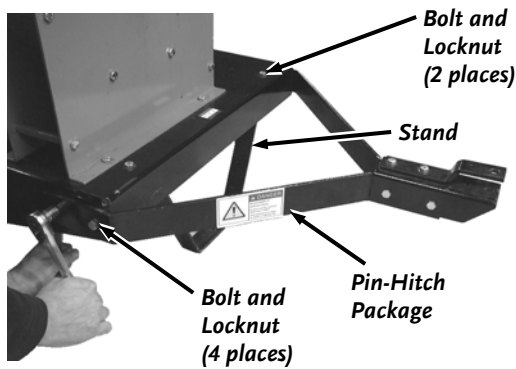

Figure 44
3. Position the Pin-Hitch Package and secure to the Chipper Base Frame with four 5/16"-18 Bolts and Nylon Lock Nuts using two 1/2" wrenches (**Figure 44**).
5. Remove the Stand from the Chipper by removing the two Bolts and Locknuts with two 1/2" wrenches (**figure 44**).